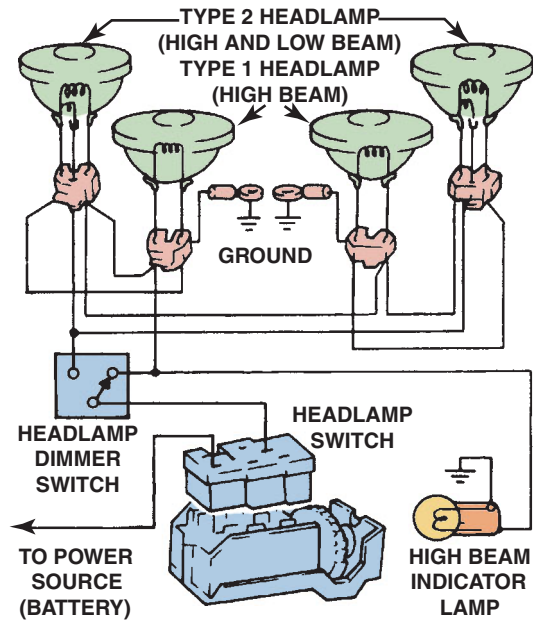

FIGURE 5-24 This complete headlight circuit with all bulbs and switches is a series-parallel circuit.
- A circuit where a parallel circuit contains resistors or loads which are in series with one or more branches. A headlight and starter circuit is an example of this type of series-parallel circuit. A headlight switch is usually connected in series with a dimmer switch and in parallel with the dash light dimmer resistors. The headlights are also connected in parallel along with the taillights and side marker lights. ● SEE FIGURE 5-24.